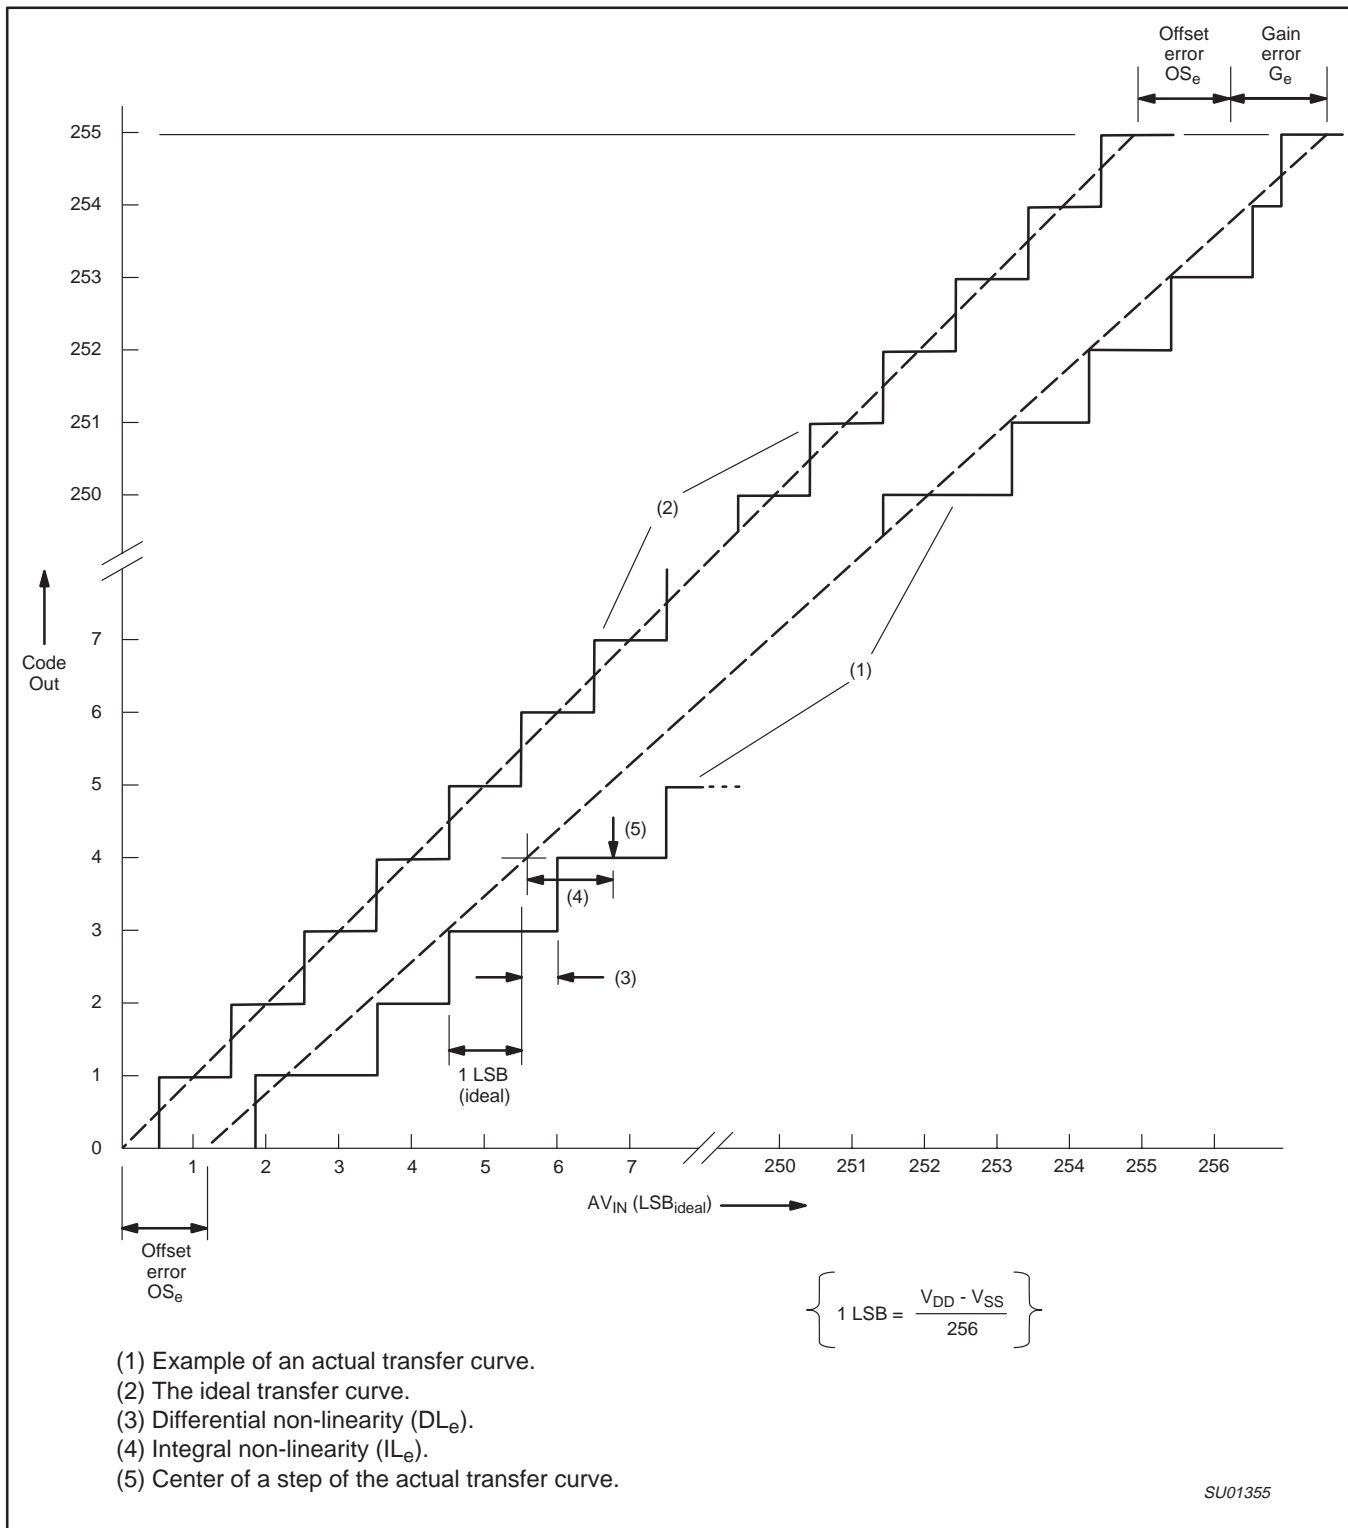

Figure 40. A/D Conversion Characteristics
3. The differential non-linearity ( $DL_e$ ) is the difference between the actual step width and the ideal step width. See Figure 40.
4. The integral non-linearity ( $IL_e$ ) is the peak difference between the center of the steps of the actual and the ideal transfer curve after appropriate adjustment of gain and offset errors. See Figure 40.
5. The offset error ( $OS_e$ ) is the absolute difference between the straight line which fits the actual transfer curve (after removing gain error), and the straight line which fits the ideal transfer curve. See Figure 40.
6. The gain error ( $G_e$ ) is the relative difference in percent between the straight line fitting the actual transfer curve (after removing offset error), and the straight line which fits the ideal transfer curve. Gain error is constant at every point on the transfer curve. See Figure 40.